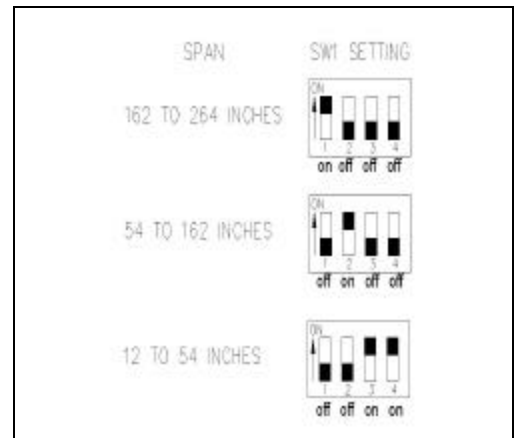

Figure 3
1. Determine the active measuring length (span) of the sensor and set the switches on switch SW1 according to Figure 3 at right.